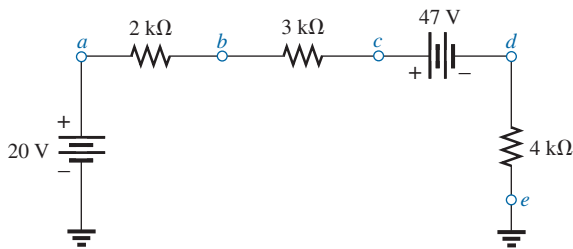

FIG. 5.121
38. For the network in Fig. 5.121 determine the voltages: